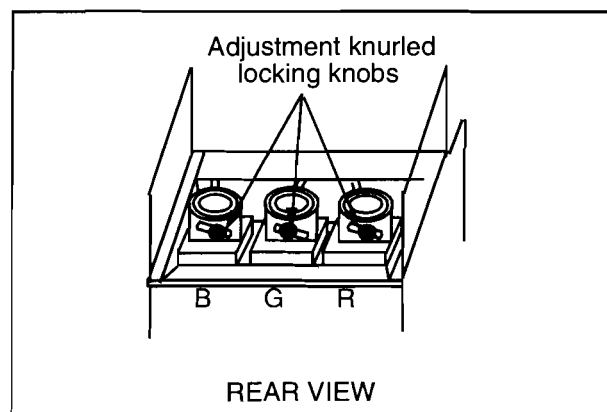

Figure 24. Optical Lens focus Adjustment
1. Optical focus adjustment is located on the top of each CRT lens system. Loosen the adjustment knurled locking knob. (Figure 24)